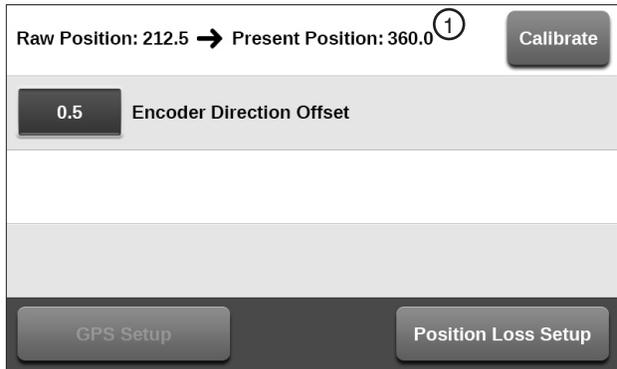

Figure 36-2 Position Screen
3. Push **Menu**, **Setup**, **Constants** and **Position** to view the Present Position of the machine. Refer to Figure 36-2.